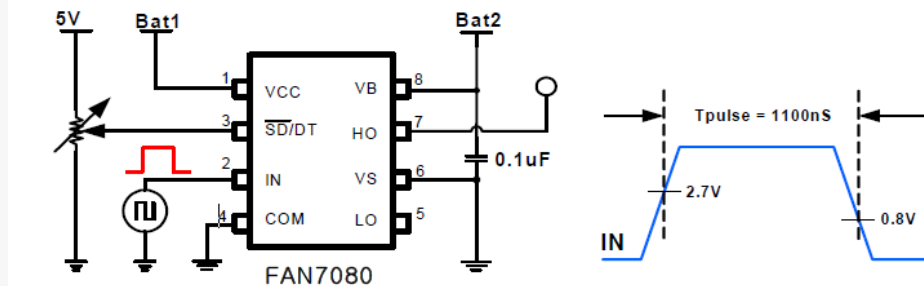

Figure 5. Short Pulse Width Test Circuit and Pulse Width Waveform
- When  $V_{DT} = 1.2$  V. Refer to Figures 5, 6, 7 and 8.